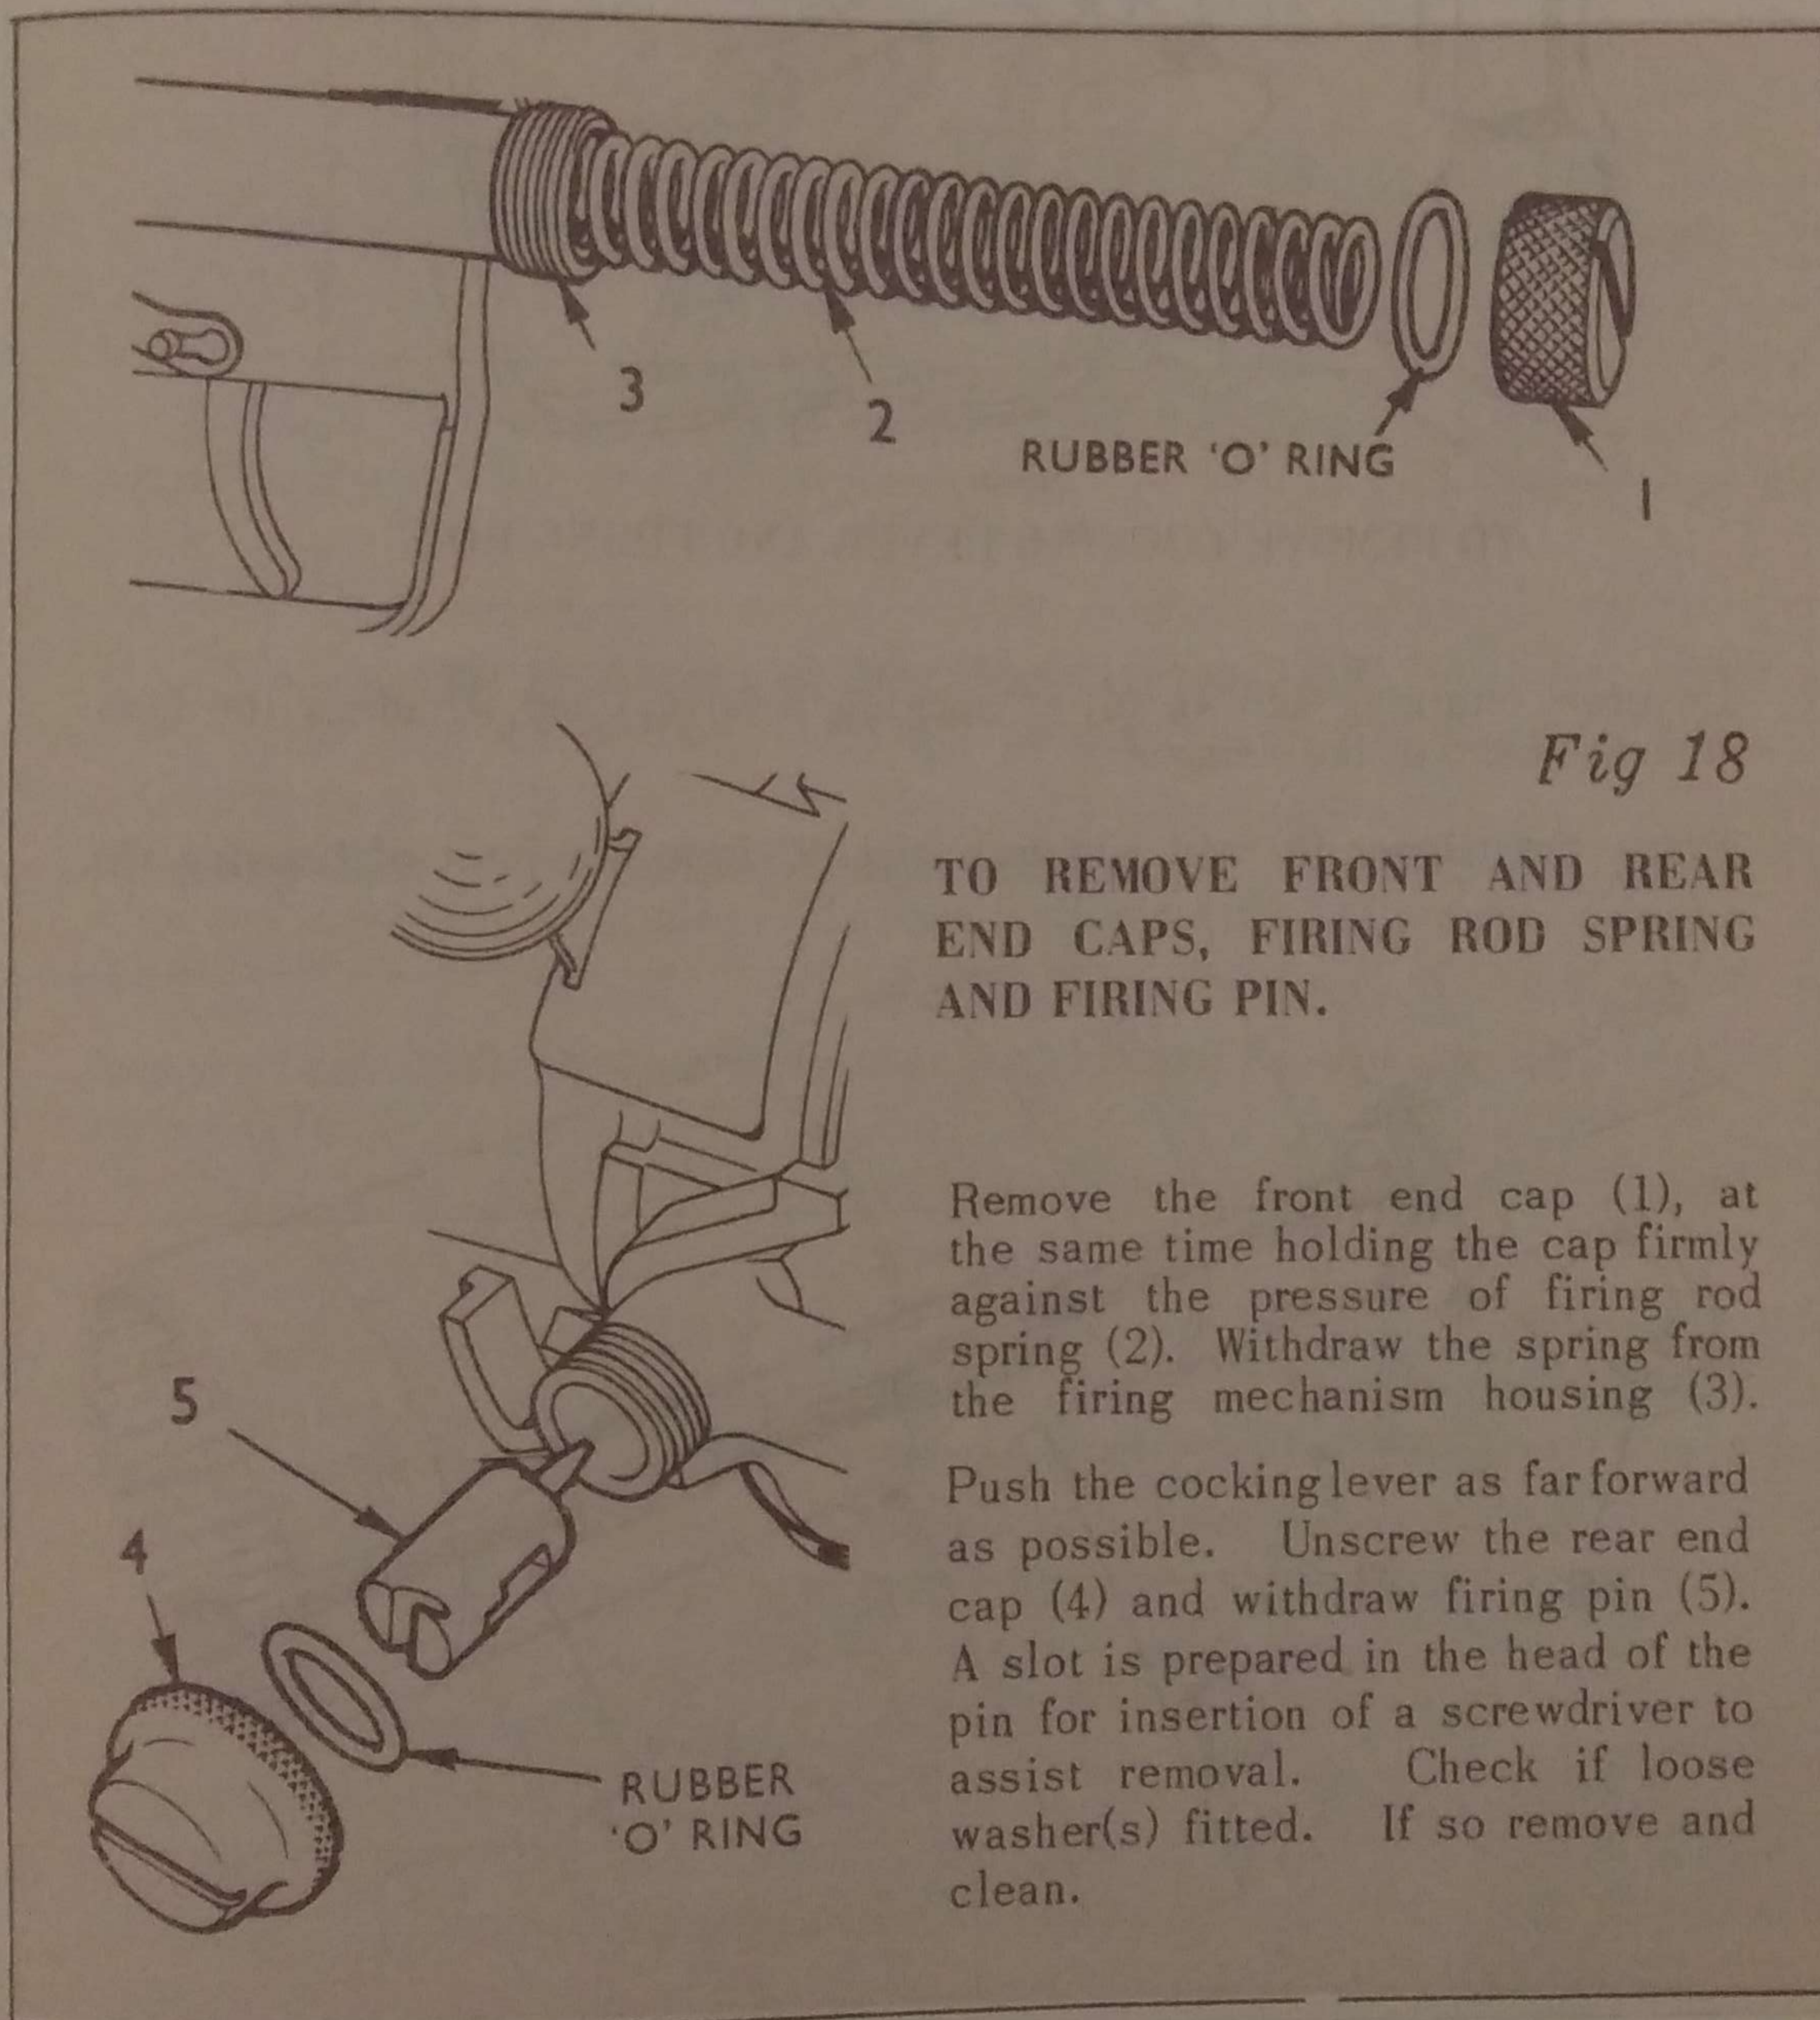

Fig 18
55. *To Dismantle the Gun* (Figs 18 to 22). Prior to commencing dismantling operations, ensure that the gun is not cocked then proceed as follows:
- b. Proceed as in Fig 18.